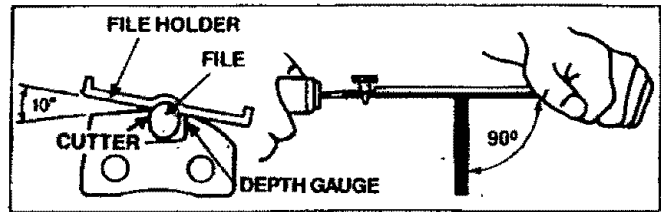

Figure 31
- a.) Support the square rod on the file holder (with 5/32" round file) on the cutter top plate and depth gauge. Figure 31.